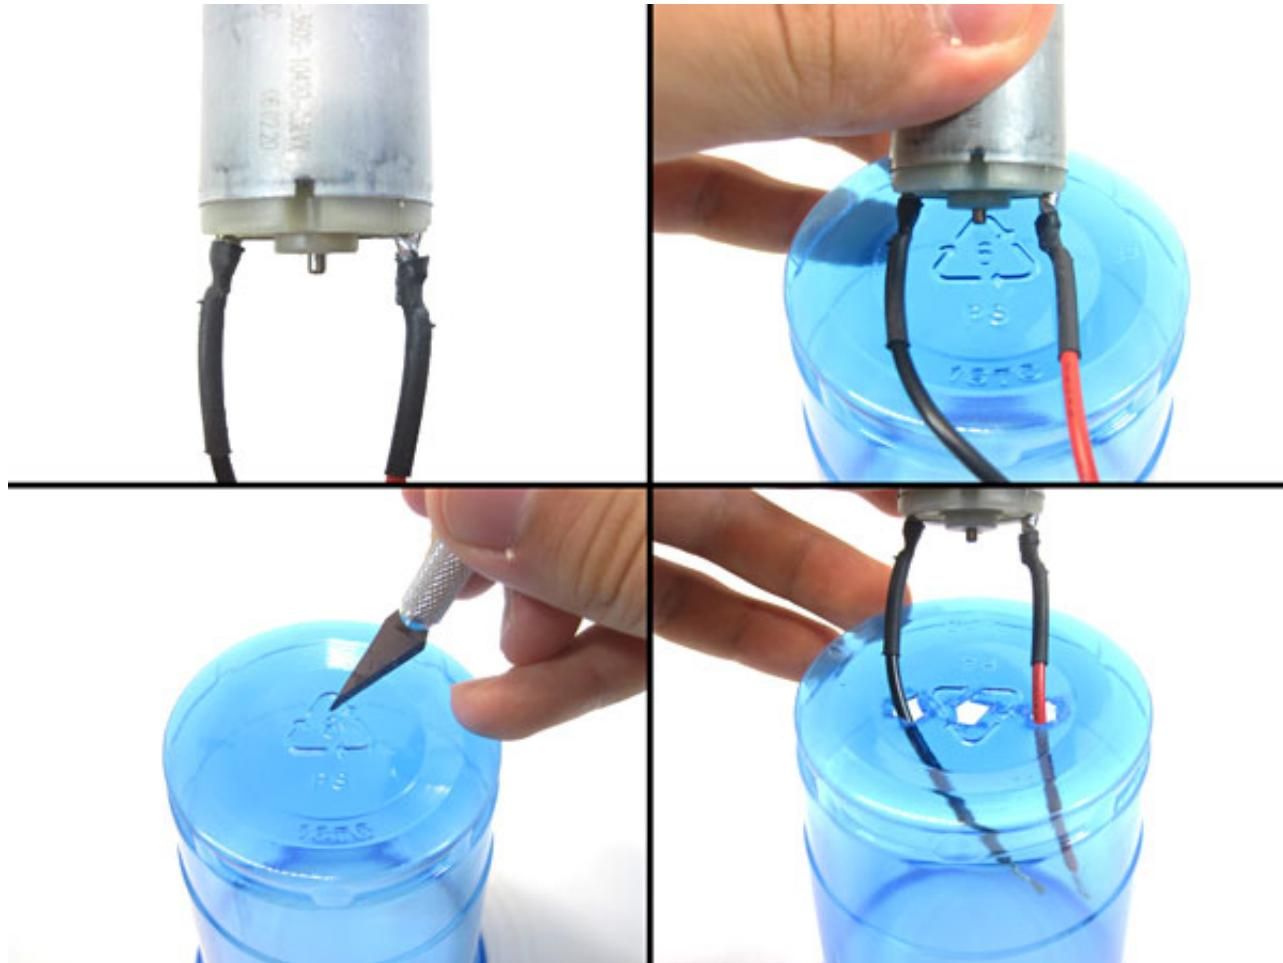

Figure 5. Cut holes so the motor can sit flat on the top of the cup.
4. **Important:** Adult supervision is required for this step. Cut holes in the cup for mounting the motor, as shown in Figure 5, below.